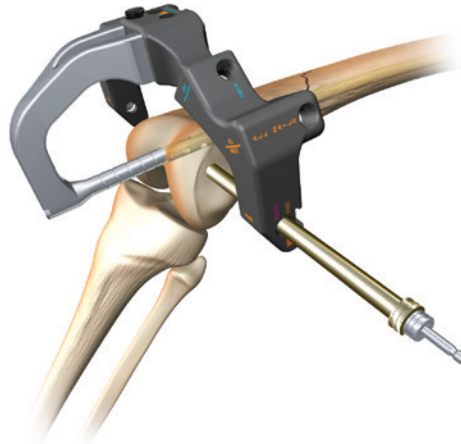

Figure 28
2. Insert the gold 9.0mm Drill Sleeve (71631152), 4.0mm Drill Sleeve (71674083), and Screw Depth Gauge (71631189) through the desired slot on the Anterior Drop (Figure 28) down to the bone.